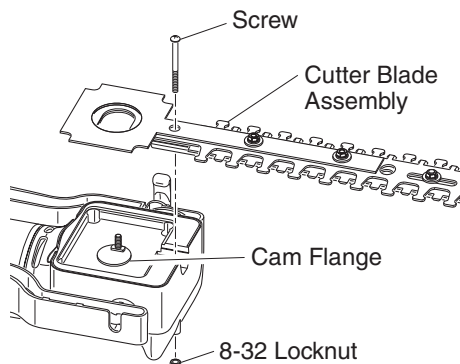

Figure 20 - Removing Cutter Blade Assembly
5. Remove screw that holds down cutter blade assembly (see Figure 20). **IMPORTANT:** Be sure not to lose the 8-32 locknut that secures this screw.